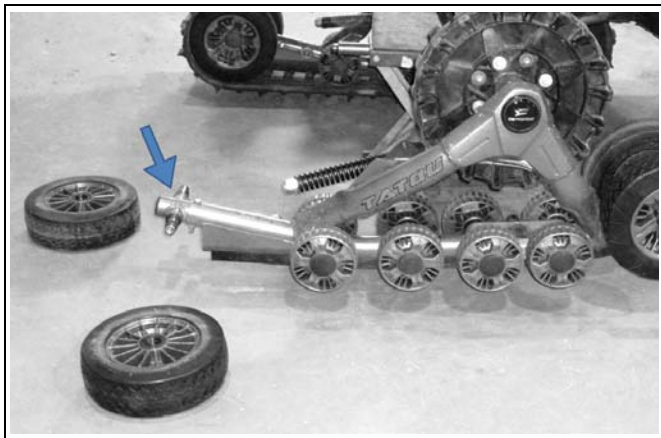

Figure 25
- Remove the two 255 mm wheels opposite to the track tensioner side (refer to Figure 25).